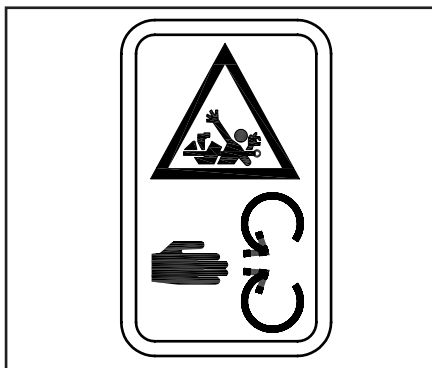

Fig. 2.26.2
29.3 580A1607 (Fig.2.26.2)**Danger of entanglement**